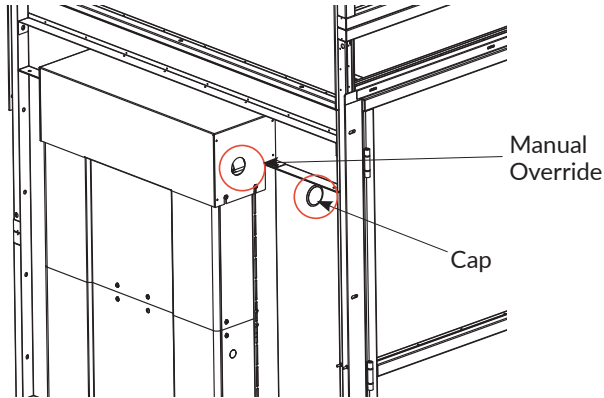

Figure 3-4
2. Remove the plastic cap to access the manual override. *See Figure 3-4.*